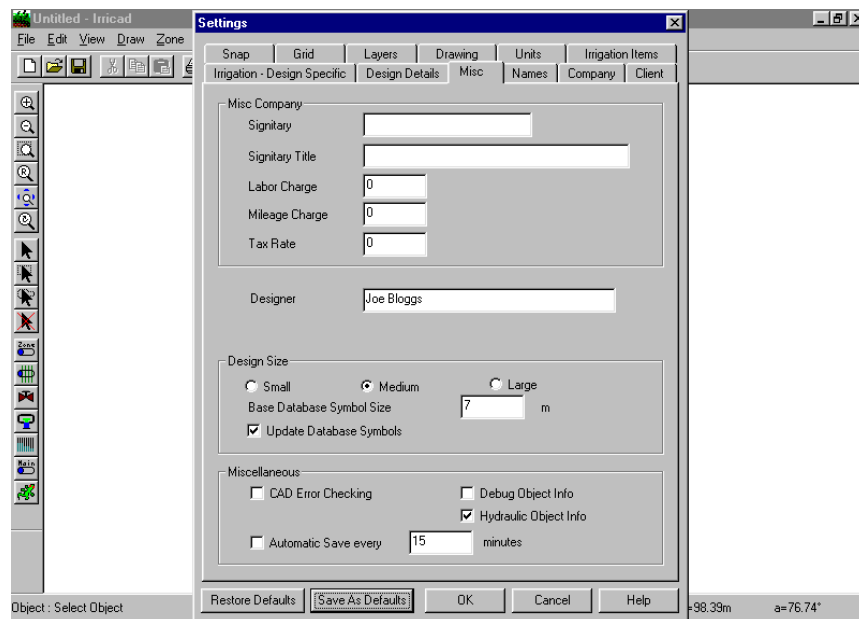

Figure MI 1
Go to the Misc. tab and select the Medium design size as in Figure MI 1. Change the Base Database Symbol Size to 23 (7). This determines the size of the symbols according to the size of the design. Enter your name in the Designer field. When you are finished Click OK.